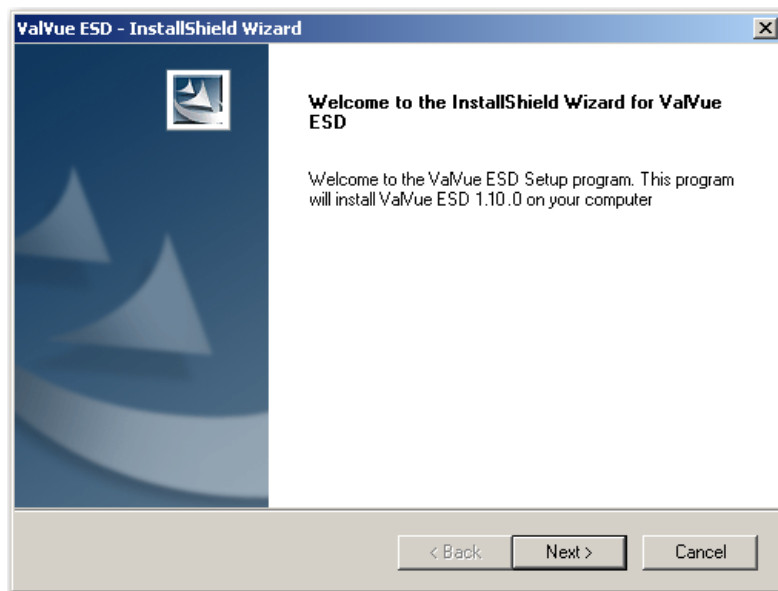

Figure 4 Install Shield Wizard
3. Click **INSTALL STANDALONE VERSION** and an *installShield* screen appears (Figure 4).